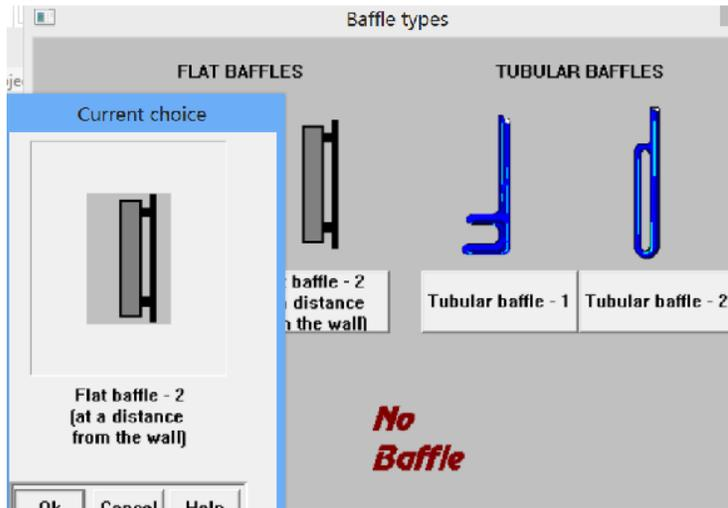
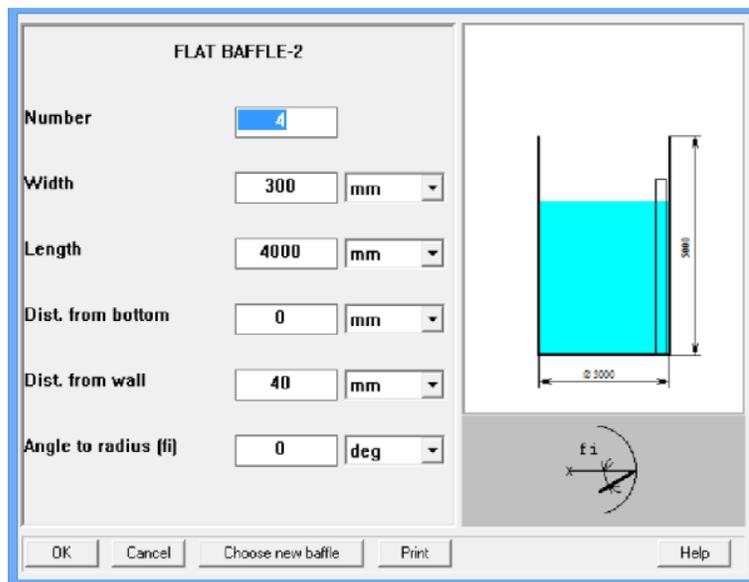

Figure 3. Graphic menu for selection of baffles (fragment).
Figure 4. Entering data for the baffles.
**1.2. Baffles.** The Flat baffles are selected from a graphic menu (Fig.3). Dimensions are entered into the table supplied by the program (Fig.4).